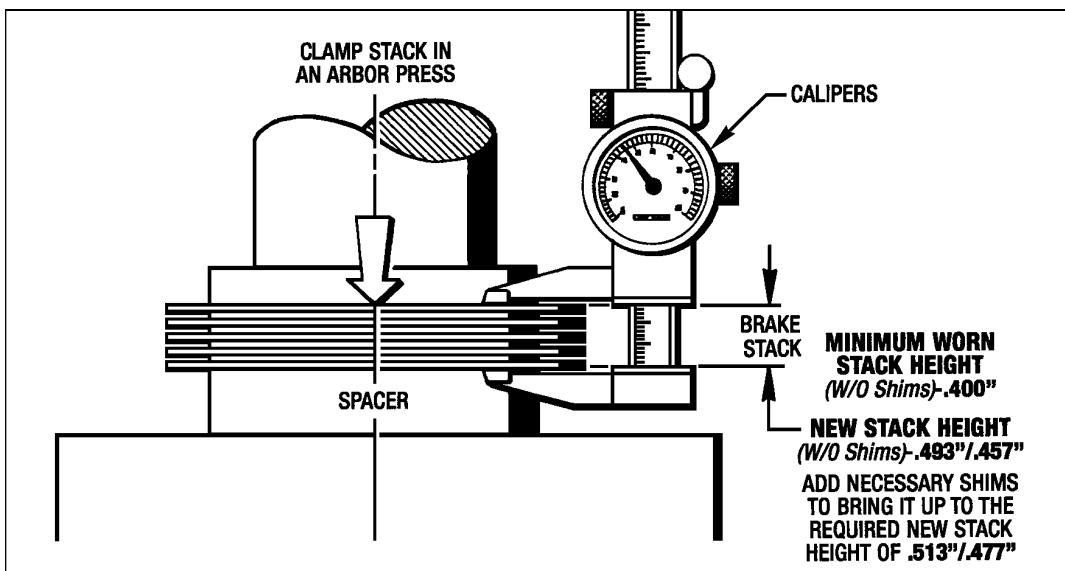
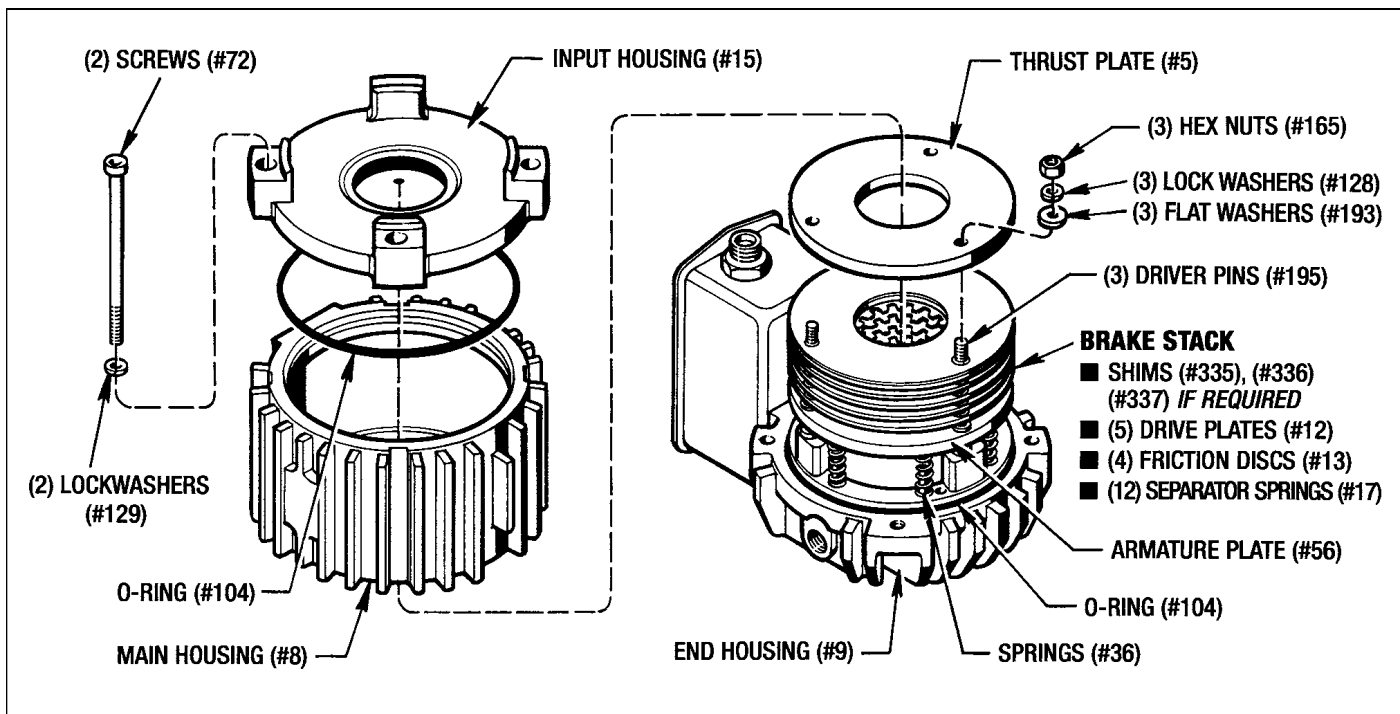

Figure 7.1 - Measuring Stack Height
Figure 7.2 - Replacing the Brake Stack
The Stack Height must be measured to determine whether or not the Brake Stack needs to be replaced. If it measures under the Minimum Worn Stack Height then the Brake Stack needs to be replaced. Also, if you are installing a new brake stack, it needs to be measured to determine the amount of shims required (See Figure 7.1)
(See Figures 7.2, 8.2 and 8.3)
4. Remove the (2) Screws (#72) and (2) Lockwashers (#129) from the Input Housing (#15) and lift it and the Main Housing (#8) off the End Housing (#9). (See Figure 7.2)
5. Remove the (2) O-Rings (#104) and discard them.
6. Take the (3) Hex Nuts (#165), (3) Lockwashers (#128) and (3) Flat Washers (#193) off the (3) Driver Pins (#195) in an **even manner to release the spring pressure safely**.
8. The Brake Stack can now be removed from the (3) Driver Pins (#195). (See Figure 7.2)
9. Take the (12) Separator Springs (#17) out of the Brake Stack. If there are any shims in the stack, leave them there to measure the **Stack Height**.
10. Place the Brake Stack in an arbor press and measure the **Stack Height** to determine whether or not the Brake Stack needs to be replaced. (See Figure 7.1)
11. Measure the new stack with the same procedure as shown in Figure 7.1 to determine the amount of shims required. The normal shim requirement is .020".